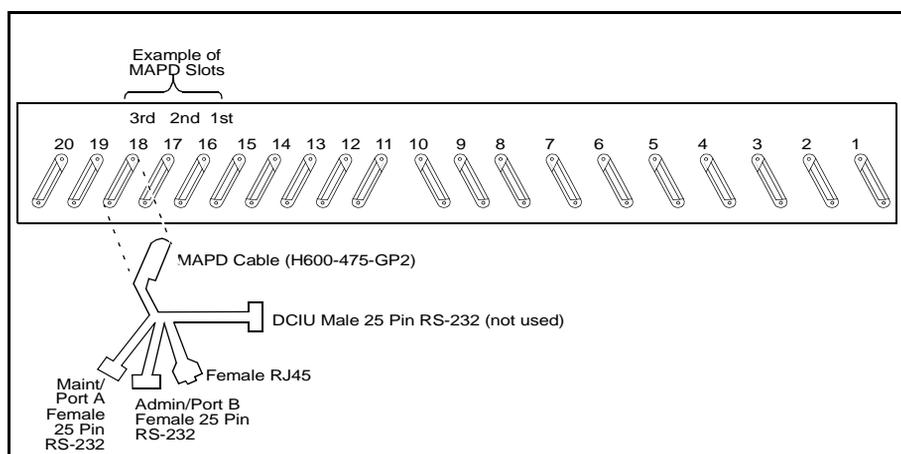

Figure 2-10. Attaching the MAPD Cable
2. Connect the MAPD system assembly adapter cable to the port connector on the back of the switch. (See Figure 2-10)
5. Insert the system assembly (see Figure 2-10) into the switch cabinet as follows: